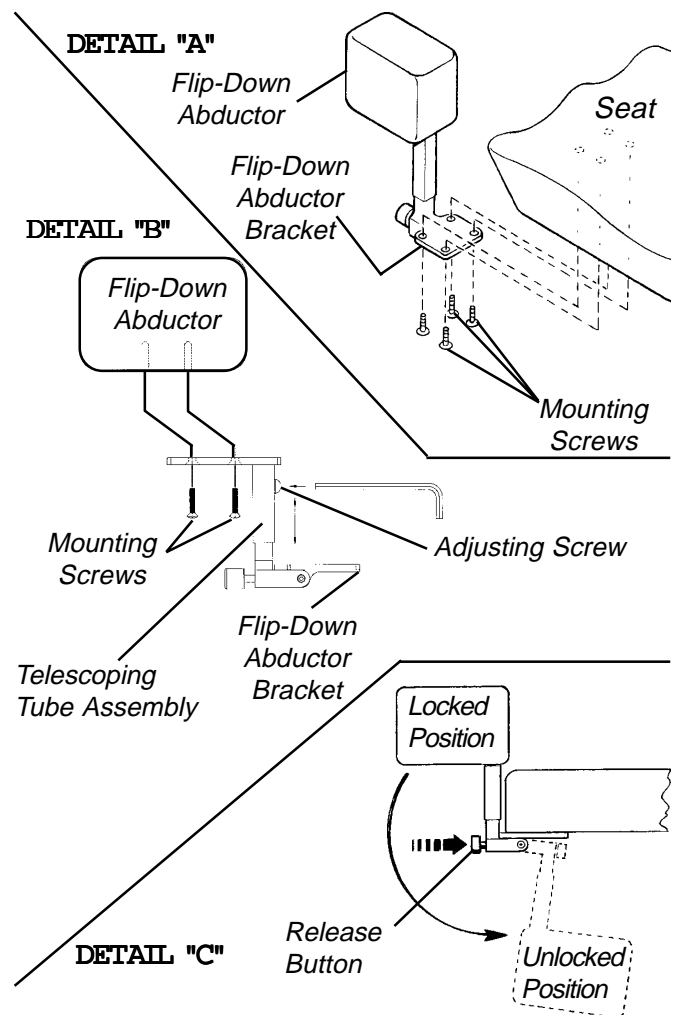

FIGURE 8 - ATTACHING/ADJUSTING THE HEIGHT/REVERSING THE CUSHION/USING THE FLIP DOWN ABDUCTOR
ATTACHING/ADJUSTING THE HEIGHT/REVERSING THE PAD/USING THE FLIP DOWN ABDUCTOR (FIGURE 8)
Attaching the Flip Down Abductor (FIGURE 8-DETAIL "A")
Adjusting the Height of the Flip Down Abductor (FIGURE 8-DETAIL "B")
1. To unlock and flip down abductor, press release button (FIGURE 8-DETAIL "C").
Reversing the Cushion of the Flip Down Abductor (FIGURE 8-DETAIL "B")
Using the Flip-Down Abductor (FIGURE 8-DETAIL "C")